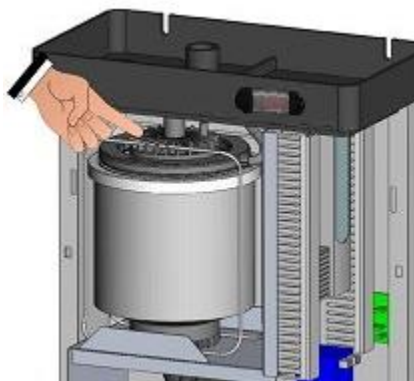

Fig.1
2. Replace the humidifier steam outlet flange (diameter 25) with the supplied flange (Fig.1) (diameter 40) (not necessary for ES24, ES48 and ES100 humidifiers).